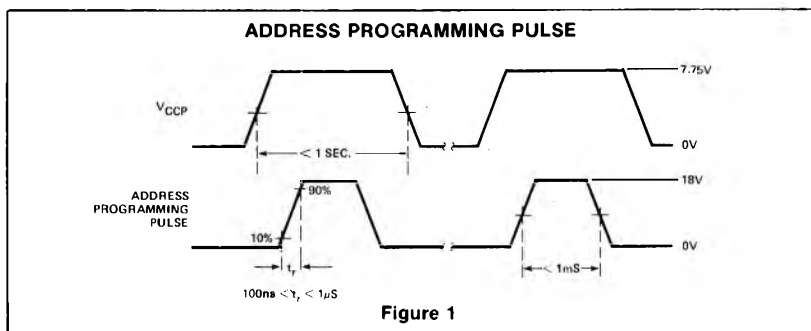

Figure 1
3. After V_{CC} has stabilized, apply a single programming pulse to the user data bus bit where a low-level match is desired. The voltage should be limited to 18V; the current should be limited to 75mA. Apply the pulse as shown in Figure 1.